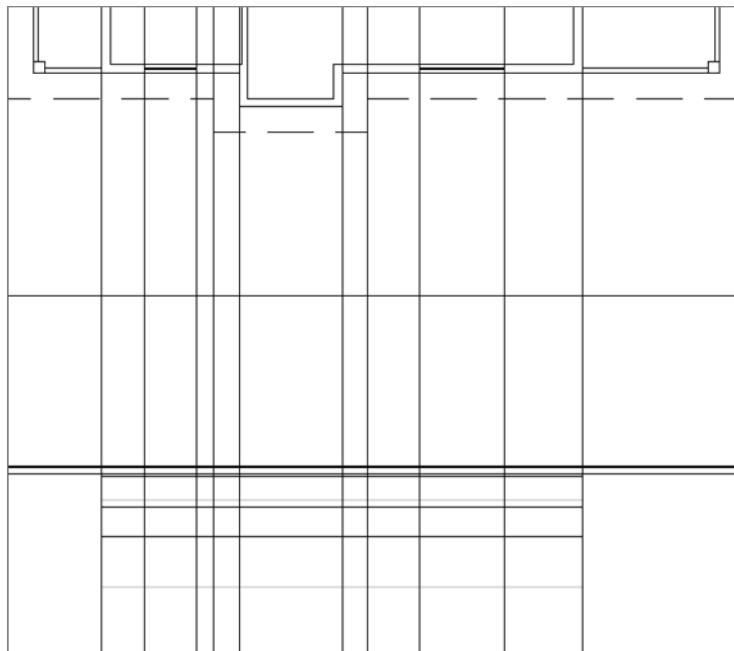

FIGURE 10.10 The elevation after extending the roof lines
2. Click once on each end of the top four horizontal lines—the ridgeline, the top and bottom of the roof covering, and the bottom of the soffit (see Figure 10.10).